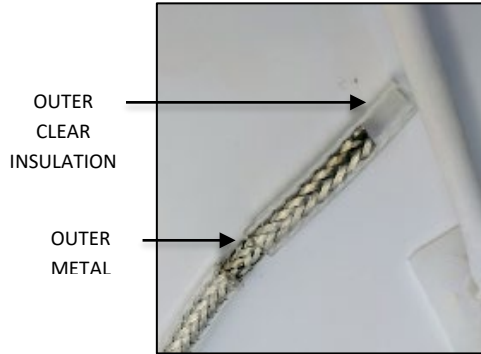
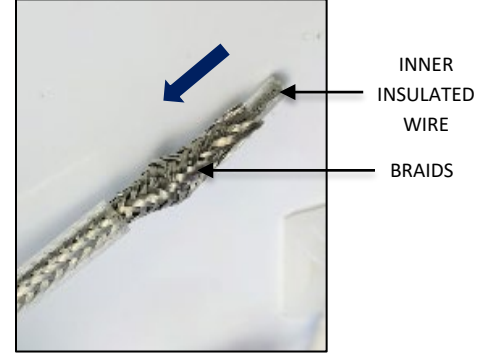

FIG. 17
FIG. 18
- Strip off 1.00" of outer clear insulation exposing the outer metal braiding as shown in FIG. 17 below. **Be careful not to cut or damage the outer metal braiding.** Gently push braiding down to loosen the individual braids exposing the inner insulated wire as shown in FIG. 18 below.